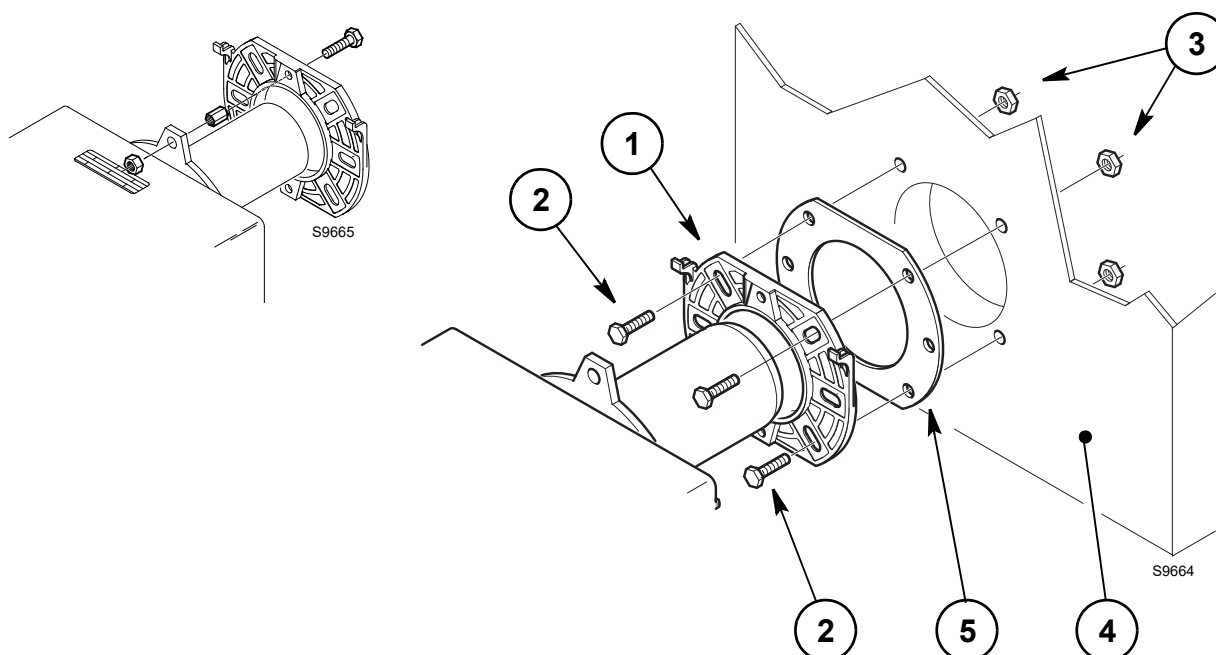

Fig. 8
- Put on the flange 1)(Fig. 8) the screw 2) and two nuts 3).
- To the door of the boiler 4)(Fig. 8) fix the flange 1) using the screws 2) and (if necessary) the nuts 3) placing the insulating gasket 5) in-between.